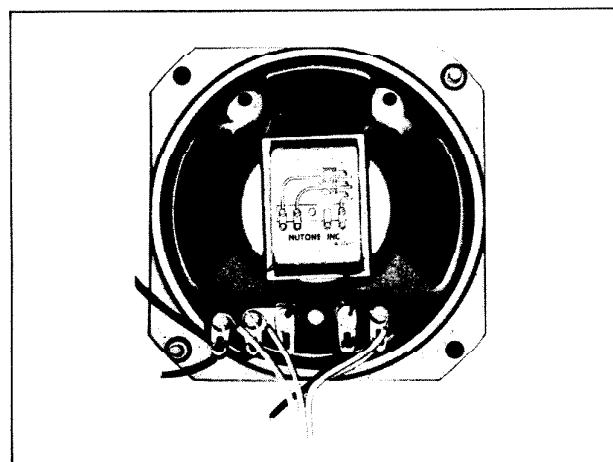

Fig. 8. Speaker connections for Models 2006, 2025, and 2026 remote stations.
1. Connect the three-conductor wire in wall frame to the terminal strip on back of speaker as shown by instruction label on speaker magnet frame (Fig. 8).